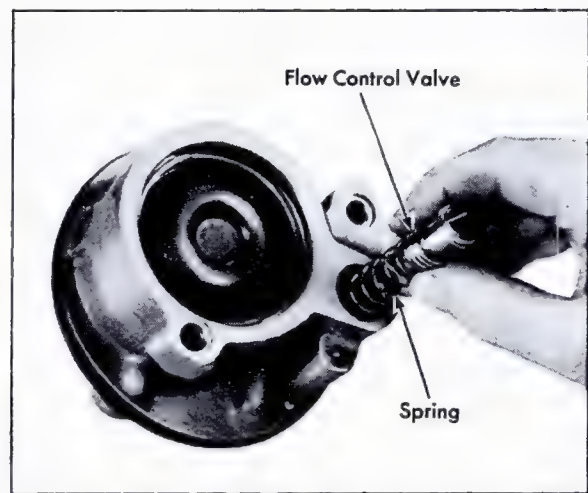

Fig. 9-19 Installing Flow Control Valve
19. Install flow control valve; hex head screw goes into bore first, Fig. 9-19.